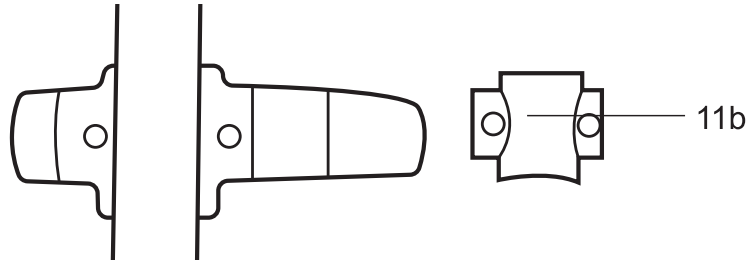

Fig. 10
1. Put the upper part (11a) in the right place, then put lower part (11b) on it (Fig. 10).